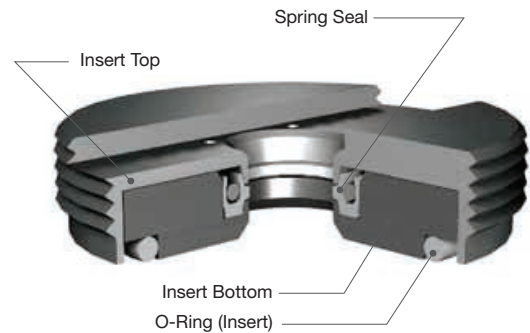

Figure 25: Insert Assembly
- e. Final Insert Assembly is shown in Figure 25.